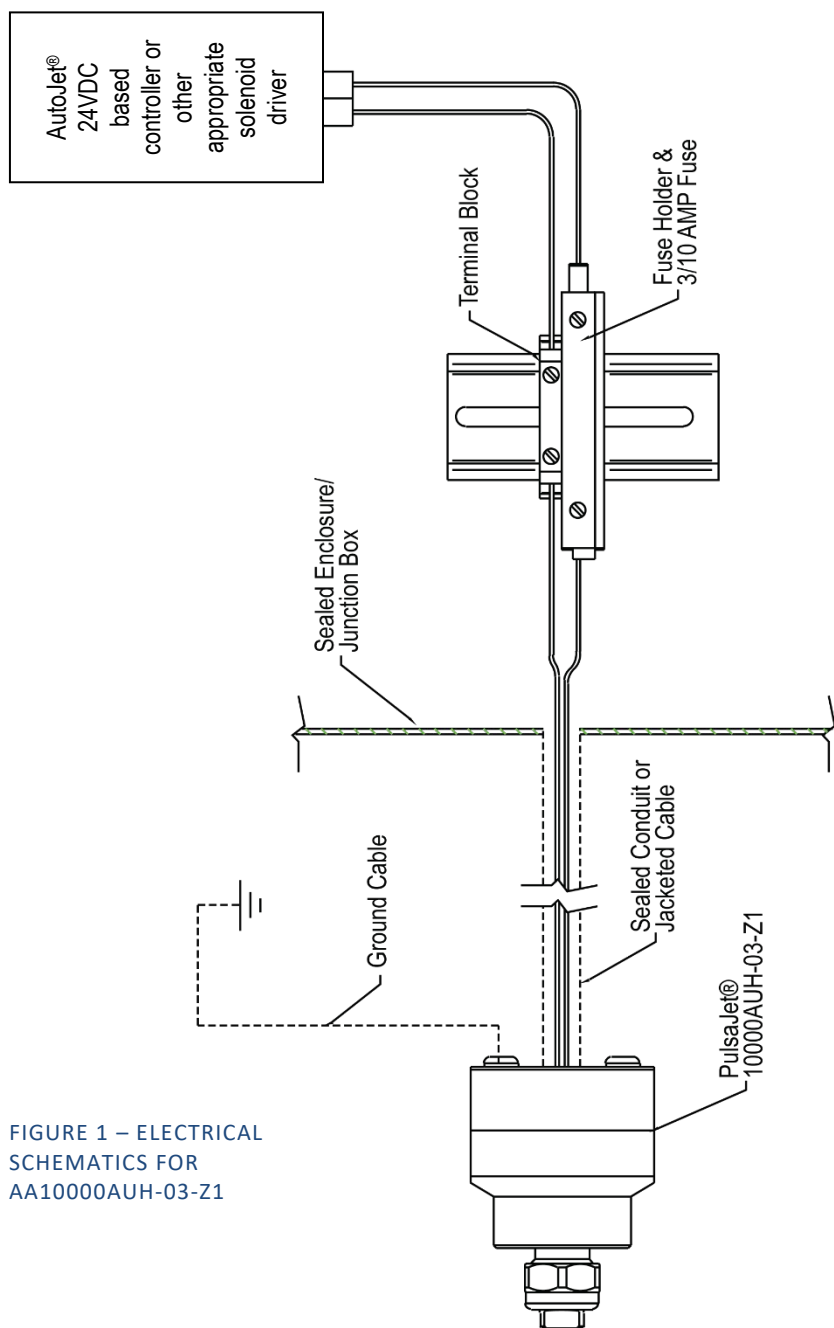

FIGURE 1 – ELECTRICAL
Electrical conduit connection for conduit fitting accepts 1/2" NPT (M) for NPT version. The conduit must protect the electrical cable from mechanical damage and terminate in a sealed enclosure or junction box appropriate for the hazardous location. For BSPT version, an Ex d rated cable gland is used with cable. The fuse holder and a 3/10-amp fuse should be used as shown in Figure 1. The ground connection of the PulaJet® 10000AUH-03-Z1 must be attached to a true ground.